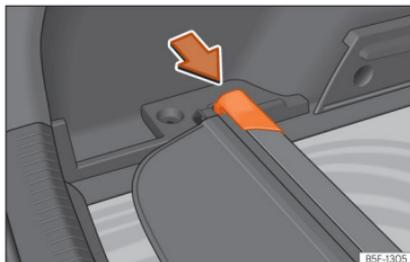

Fig. 128 In the luggage compartment: space to store the retractable shelf.
- Press the head of the retractable shelf in the direction of the arrow until it engages in its housing »»» **Fig. 128**.